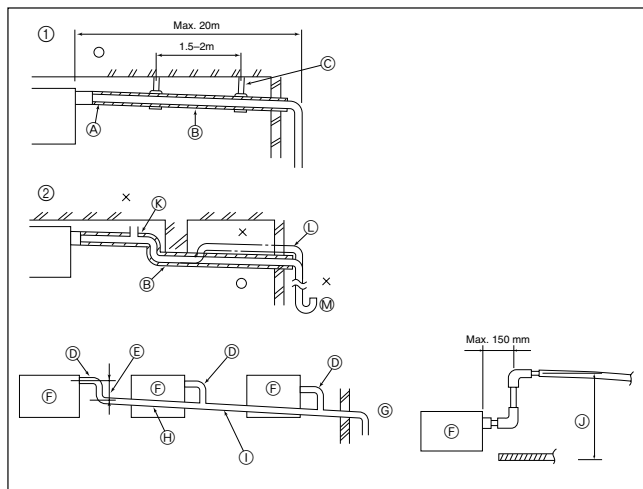

Fig. 6-1
6.1. Drainage piping work (Fig. 6-1)
- ① Correct piping
- ② Wrong piping
- ③ Support metal
- ④ Air bleeder
- ⑤ Insulation (9 mm or more)
- ⑥ Downward slope (1/100 or more)